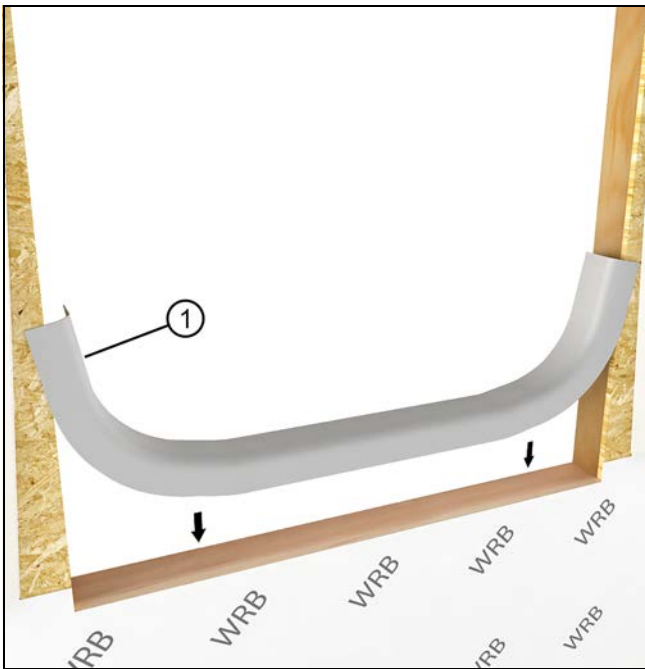

Figure 14
5. TYPE III Sill Pan Flash: Apply self sealing flexible membrane slope. See Figure 14.